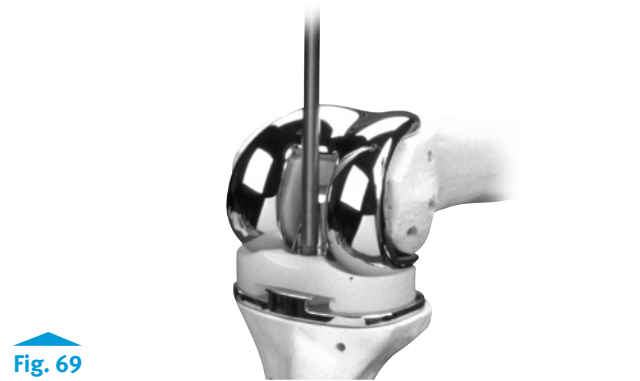

Fig. 69
- Thread the Hinge Post Extension into the Hinge Post, by hand, using the 4.5mm Hex Head Screwdriver (Fig. 69). Then leave the driver in the Hinge Post Extension.